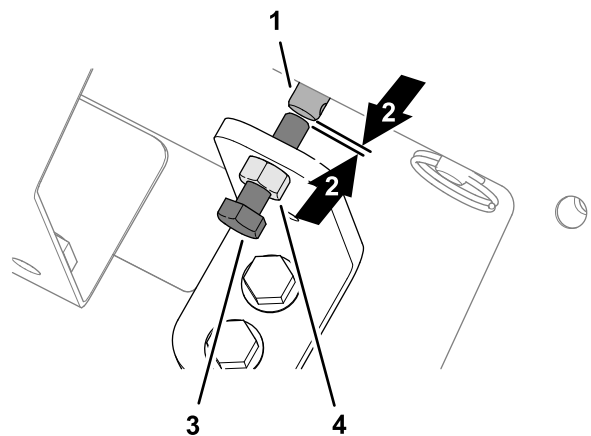

Figure 34
1. Loosen the jam nut at the manual-override bracket (Figure 34).
2. Rotate the hex-head screw for the valve override counter clockwise until you see a small gap between the end of the screw and the end of the stem of the floor-speed solenoid (Figure 34).
3. Tighten the jam nut (Figure 34).